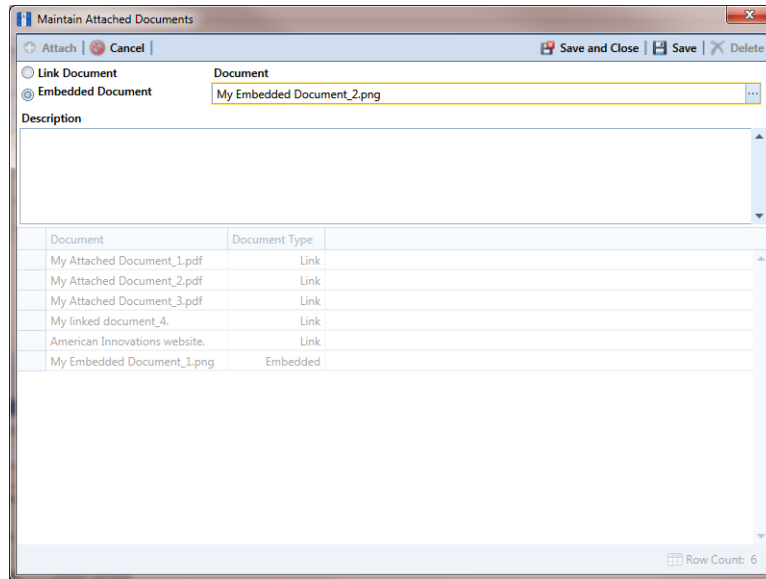

Figure 7-106. Maintain Attached Documents
- 9 If you selected *Embedded Document* in step 6, complete the following steps (Figure 7-106):